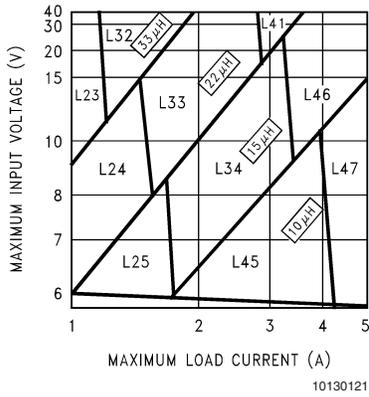
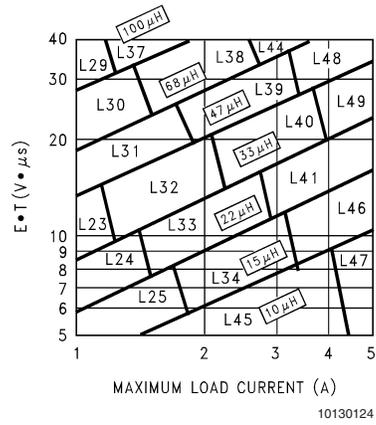

FIGURE 3. LM2677-3.3
FIGURE 6. LM2677-ADJ
Step 3: Determine the inductor required by using one of the four nomographs, *Figure 3* through *Figure 6*. Table 1 provides a specific manufacturer and part number for the inductor.
Step 5: Determine an input capacitor from Table 4 for fixed output voltage applications. Use Table 2 to find the specific capacitor type. For adjustable output circuits select a capacitor from Table 2 with a sufficient working voltage (WV) rating greater than $V_{in\ max}$, and an rms current rating greater than one-half the maximum load current (2 or more capacitors in parallel may be required).
Step 3: Use the nomograph for the 3.3V device, *Figure 3*. The intersection of the 16V horizontal line ($V_{in\ max}$) and the 2.5A vertical line ($I_{load\ max}$) indicates that L33, a 22 μH inductor, is required.
Step 3: To use the nomograph for the adjustable device, Figure 6, requires a calculation of the inductor Volt•microsecond constant (E•T expressed in V•µS) from the following formula:
Using Figure 6, the intersection of 27V•µS horizontally and the 2A vertical line (I_{load max}) indicates that L38, a 68µH inductor, should be used.
Important Note: When using the adjustable device in low voltage applications (less than 3V output), if the nomograph, Figure 6, selects an inductance of 22µH or less, Table 6 does not provide an output capacitor solution. With these conditions the number of output capacitors required for stable operation becomes impractical. It is recommended to use either a 33µH or 47µH inductor and the output capacitors from Table 6.